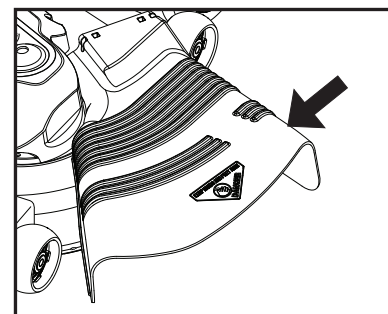

Fig. 23
**CAUTION:** Do not operate the mower without either the entire grass catcher, on mowers so equipped, or the deflector chute in place (See Fig. 23).